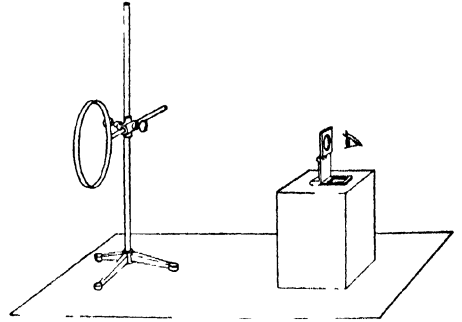

FIG. 94
**I. To construct a telescope.** With the simple magnifying glass used in the last experiment and with an objective consisting of the reading glass of Exp. 46, construct an astronomical telescope, as follows. Set the reading glass in some support (Fig 94) and find, with the aid of a piece of white cardboard, the distance  $F$  from the lens at which the image of a distant building or window is formed. Then set up the linen tester behind the card at its focal length  $f$  from it. Now remove the card and view the image of the distant object through the eyepiece. Slide the eyepiece support, if necessary, until the distant object, preferably a brick wall, is very sharply seen, then measure the distance between the lenses and compare this distance with the sum of the focal lengths. Do you find any simple relation between these quantities? Can you see any reason why there should be some such relation? Explain.